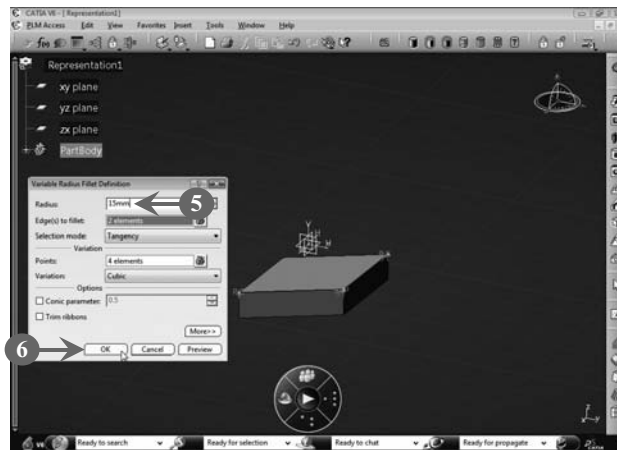

FIGURE 3.51
5. Repeat steps 3 and 4 to set the radius of the other edges. In our case, we have entered the radius of the second edge as 15 mm (Figure 3.51).
6. Click the **OK** button in the **Variable Radius Fillet Definition** dialog box, as shown in Figure 3.51: